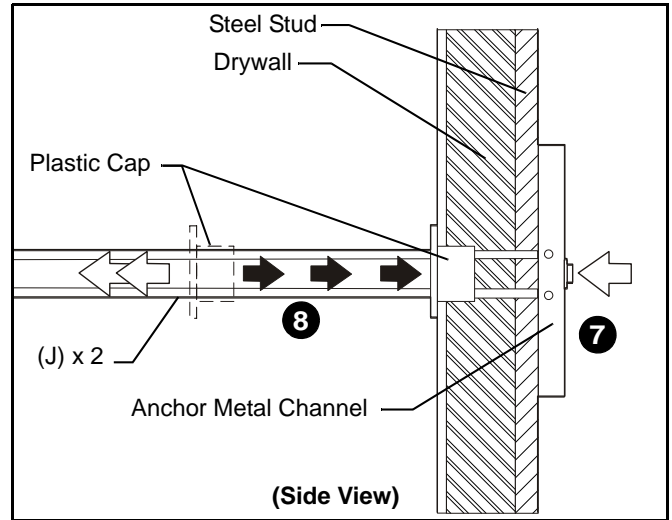

Figure 7
7. Holding plastic straps on anchor (J), pull anchor away from wall until channel rests flush behind wall making sure anchor channel is positioned vertically on stud. (See Figure 7)
8. Slide plastic cap on anchor (J) towards wall until flange of cap is flush with wall. (See Figure 7)